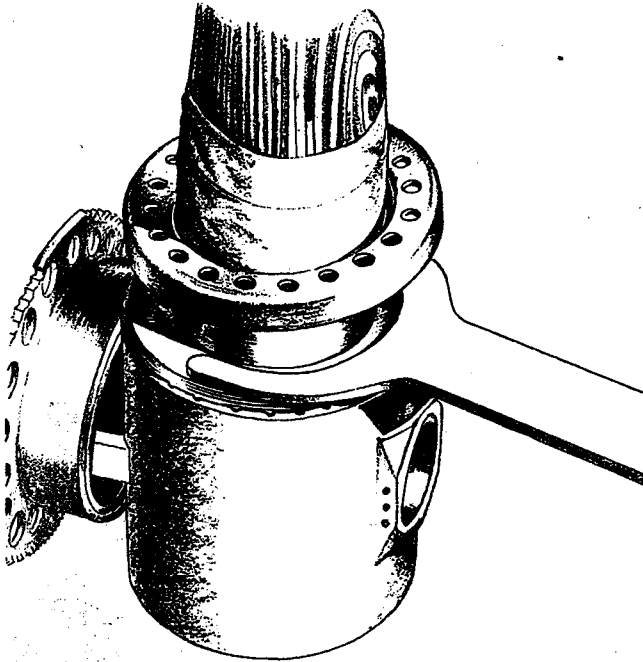

Figure 20
(4) Turn the blade retainer ring out of hub barrel with the R000-204 spanner wrench. (See figure 20.)